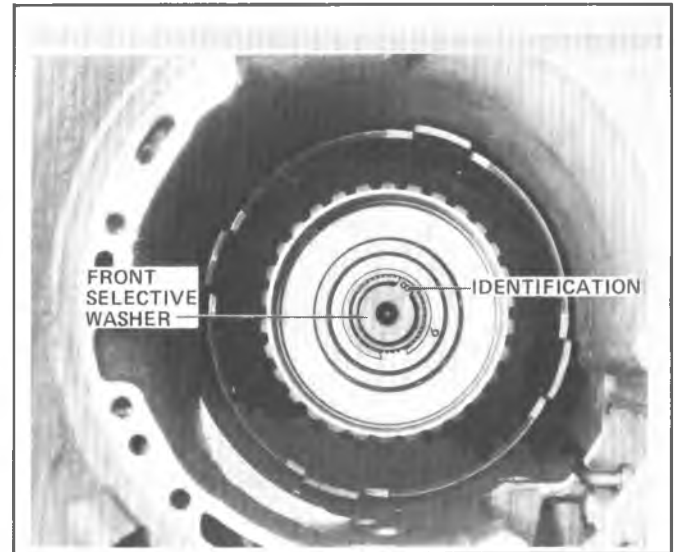

Figure 7A6-124 Location of Front Selective Washer
3. Remove the clutch plates from the direct clutch housing and keep them separated from the forward clutch plates (See Clutch Plate Usage Chart, Figure 7A6-107).
6. Using J-23327, compress retainer and spring assembly (Figure 7A6-127), remove snap ring and inspect for damage or distortion.